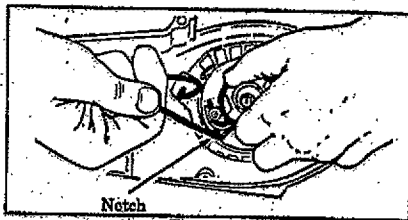

Figure 42
19. Pull out 10 inches of rope and set the rope in the notch in the pulley, Figure 42.